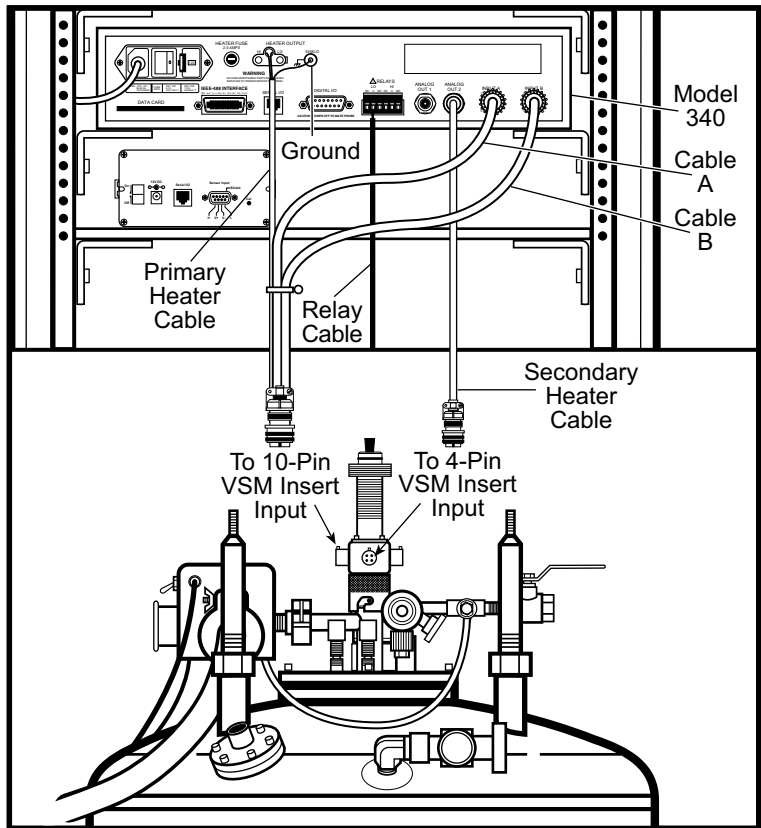

Figure 3-10 Connecting Model 340 to VSM Insert
17. Plug the Secondary Heater Cable (Cable 655-450) from the Model 340 Analog Out 2 port into the 4-pin VSM Insert input. (Figure 3-10)
18. The Model 340 tri-cable consists of Cable A, Cable B, and the Primary Heater Cable merging into a 10-pin connector. Plug Cable A into Input A and Cable B into Input B (Figure 3-10).
The Primary Heater Cable ends in a single and dual banana plug. The dual connector plugs into the HI and LO outputs. The single connector plugs into the Shield input (Figure 3-10).
Plug the 10-pin connector into the 10-pin VSM Insert input (Figure 3-10).